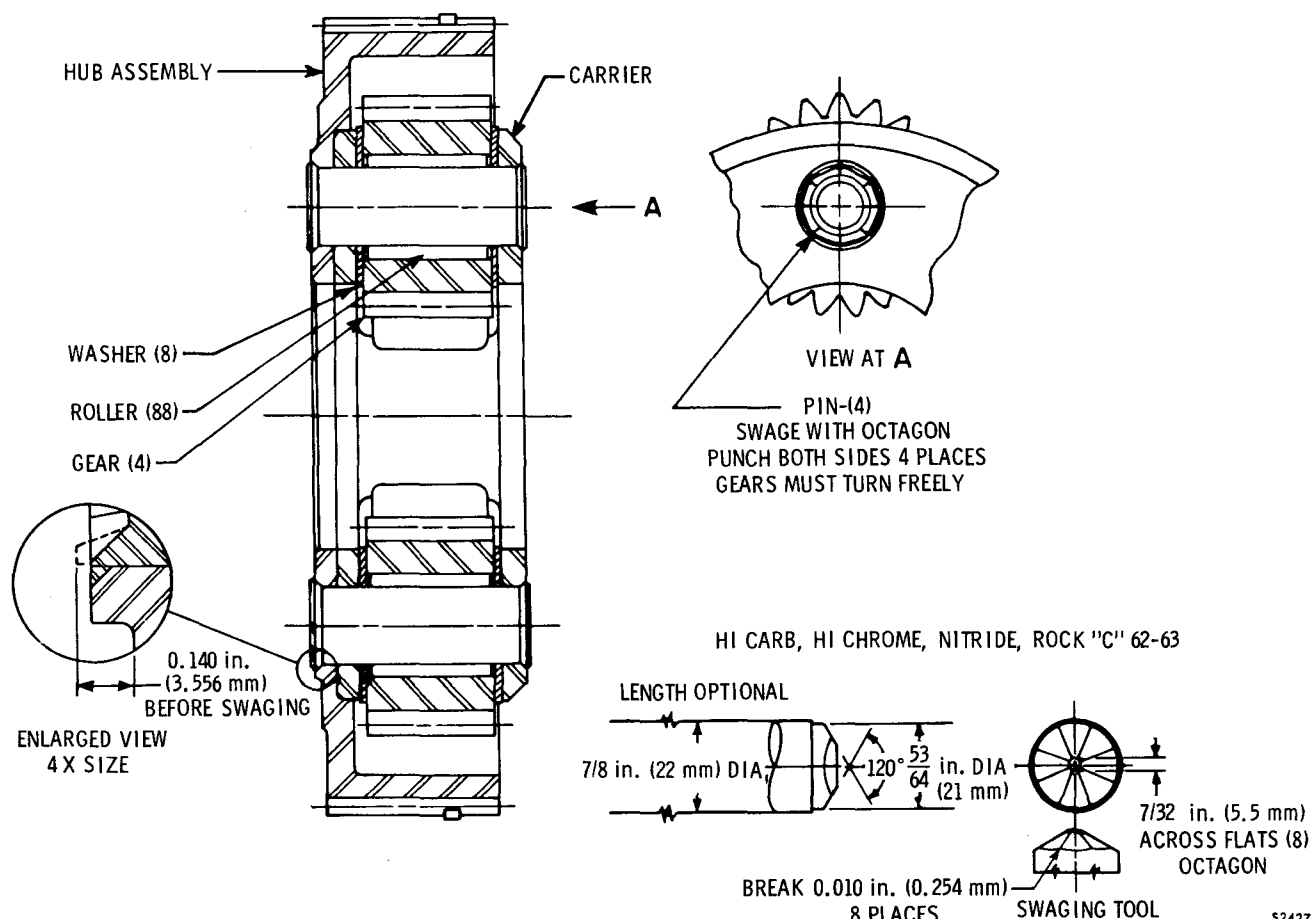

Fig. 6-16. Reverse planetary carrier assembly
a. Disassembly (A, foldout 9 and fig. 6-16)
(1) Position the carrier assembly 7, hub assembly 8 upward, on a drill press table.
(2) Using a 3/4-inch (19.05 mm) twist drill, centered accurately, drill the end of each pinion spindle 10 to weaken the staking.
c. Assembly (A, foldout 9, and fig. 6-16)
(1) Make a pinion pin alining tool by grinding or turning a chamfer on one end of a 6-inch length of 3/4-inch (19.05 mm) dia, cold-rolled steel shafting.
(2) Coat the bore of each pinion 12 (A, foldout 9) with oil-soluble grease.
(3) Holding the alining tool in one hand, install one thrust washer 11 and then a pinion 12 onto the alining tool.
(8) Repeat procedures (3) through (7), above, for the remaining pinion groups.
(9) Position the hub assembly 8, front side downward, and install the carrier assembly 13 into it. Aline the spindle bores of the carrier and hub 8, and the pinion groups, by inserting the alining tool at each spindle location.
(10) Press new pinion spindles 10 through the carrier, pinions, and hub assembly until they project 0.140 inch (3.556 mm) from the hub assembly (see inset detail of fig. 6-16).
(11) Stake both ends of the spindles into the countersinks of the carrier and the hub. Refer to fig. 6-16 for the details of fabricating the staking punch.